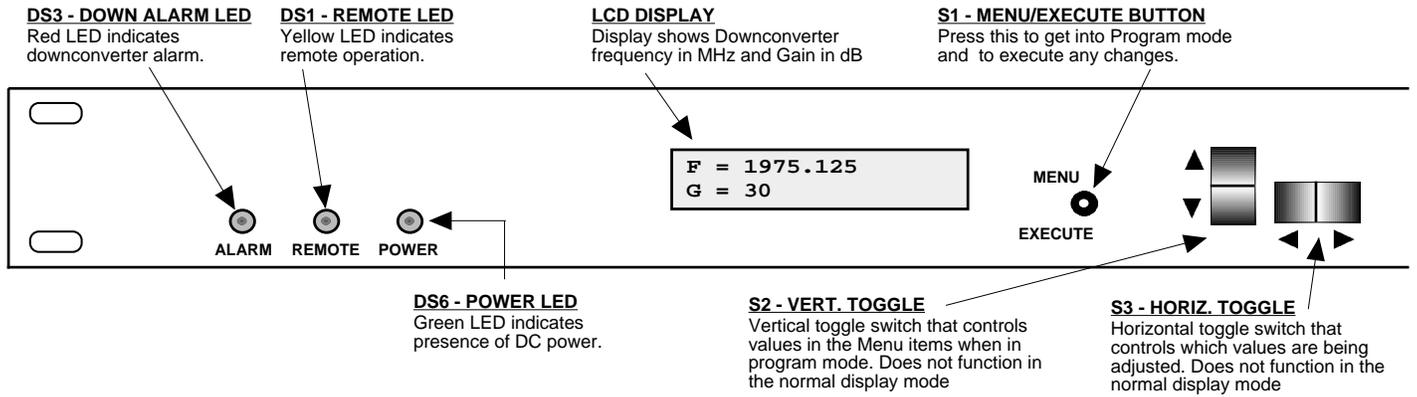

FIGURE 2.3 2016-02-370 Front Panel Controls and Indicators
6. Be sure DS6 (green, DC Power) is on and DS3 (red, Alarm) is off (Figure 2.3).
Alarm indications appear on the LEDs (see figure 2.3).